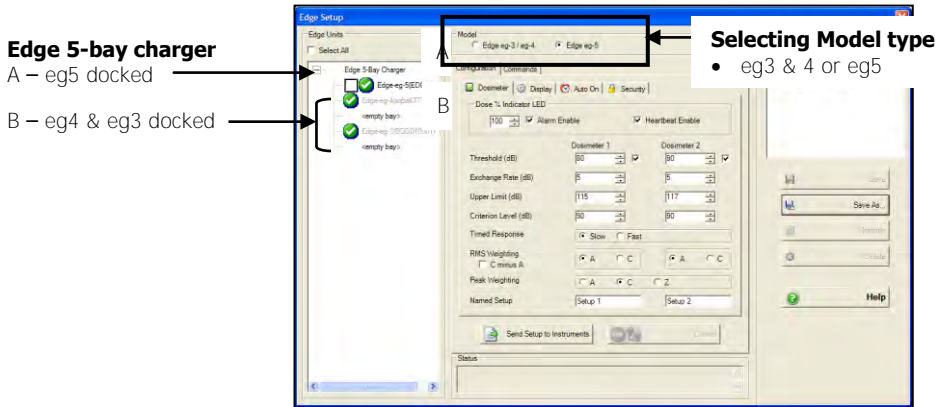

Figure 1-3: Parameter setup screen for eg5
- NOTE on Edge 5-bay charger:** If you are using a 5-bay charger, you may have various models docked at once as indicated in Figure 1-3. The models selectable in the 5-bay charger section is dependent on if you selected the eg3 & eg4 or eg5 models. DMS will display a green circle with a checkmark indicating a docked, powered on Edge with the serial name. DMS will also display a checkbox in front of applicable models that are selectable for setup parameters. (See Customizing set-up parameters” for more details.)